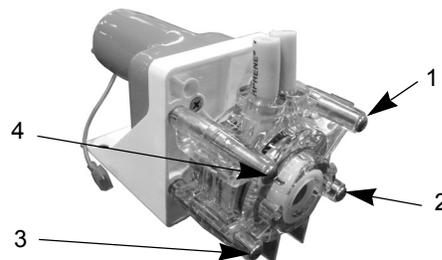

Figure 15. Pump Body Screws
2. Loosen and remove the four screws from the pump body (See Figure 15).
7. While holding the pump halves together with your hand, re-insert the four thumb screws (See Figure 15) and tighten using a criss-cross pattern as shown. The thumb screws should be tightened about 1/4 turn beyond snug.